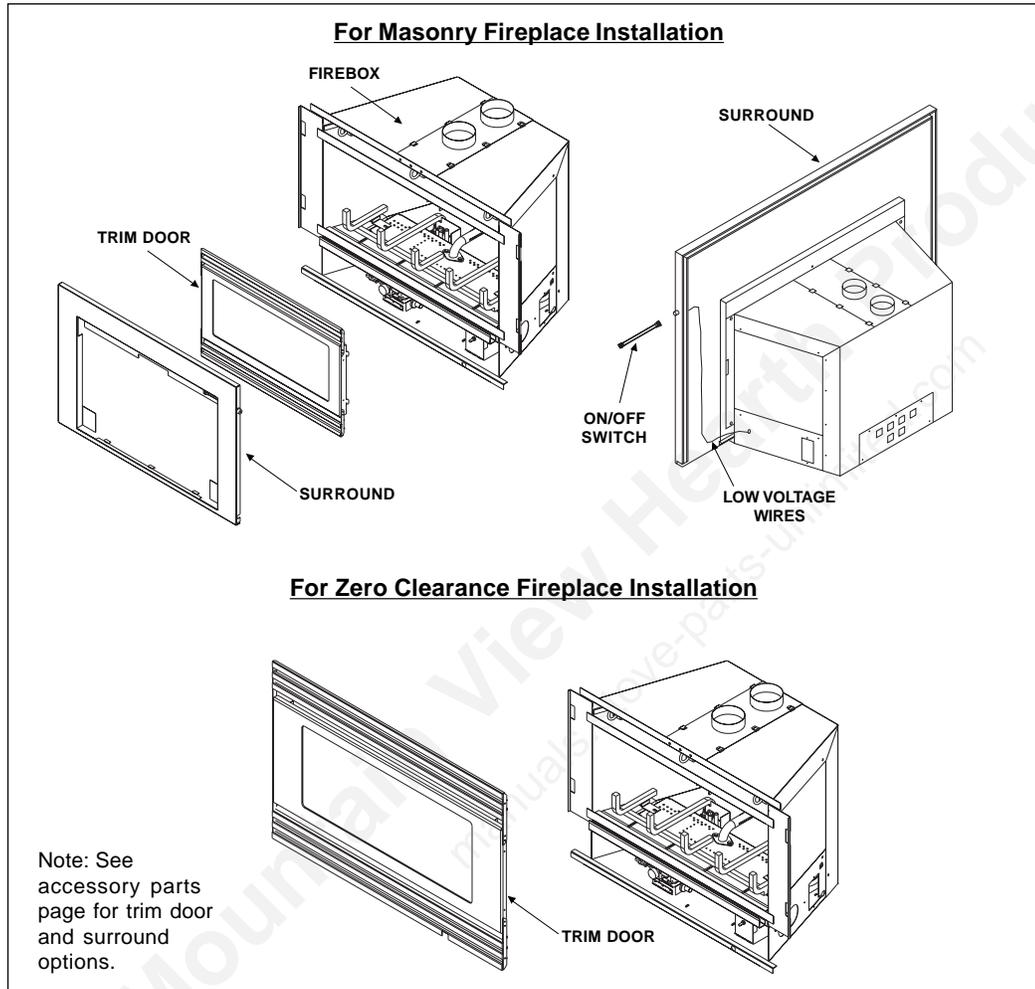

Figure 12
1. Find the coiled low voltage wires and ON/OFF switch attached to outer right side of the insert. See Figure 12.